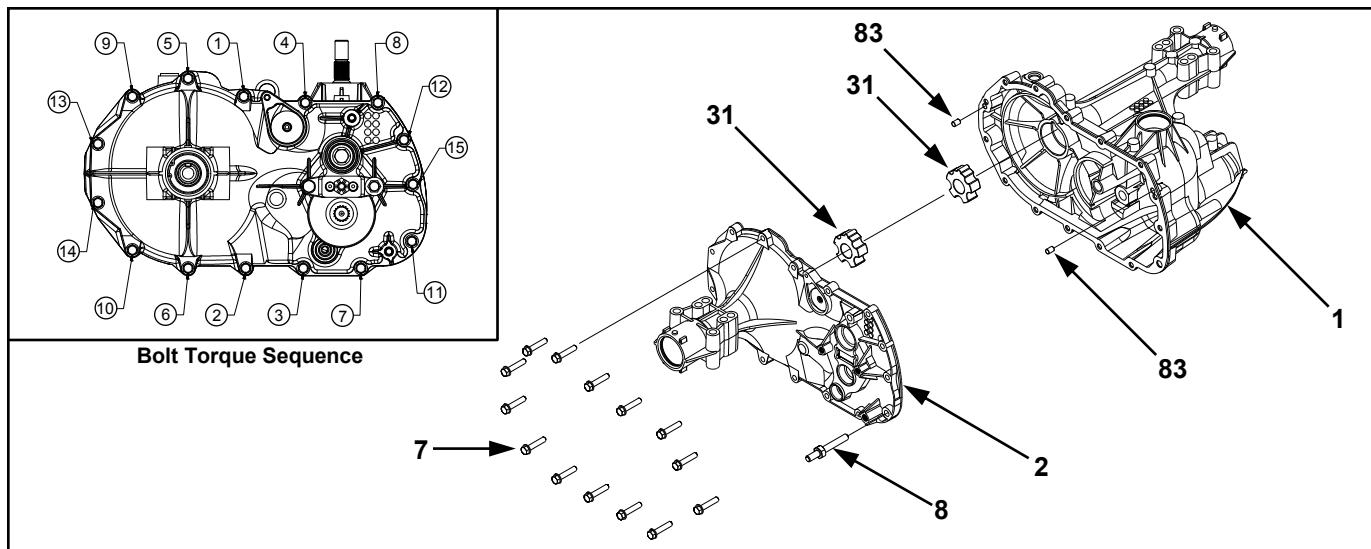

Figure 11. Side Housing Assembly
Refer to Figure 11.
4. After all of the oil has been removed from the transaxle, remove the housing screws (7) and torque strap screw (8).
5. Pull away the side housing (2), leaving the axle assembly (35, Page 32) in the main housing (1). It may be necessary to use screwdrivers at the pry points to break loose the sealant (positions B-H and G-J, Fig. 11).
2. Install the axle and sleeve bearing (31). Note the orientation of the locating tab on the sleeve bearing. It is essential for this to align with the side housing bore.
3. Install the locating pins (83), if not already installed.
4. Install the side housing (2) while aligning the bypass rod into its side housing bore. Use care not to smear the sealant bead.
5. Install the torque strap screw (8). Tighten the screw according to the specifications in Table 5.
6. Install the side housing screws (7). Refer to the screw tightening pattern in figure 11 and torque specs in Table 5.